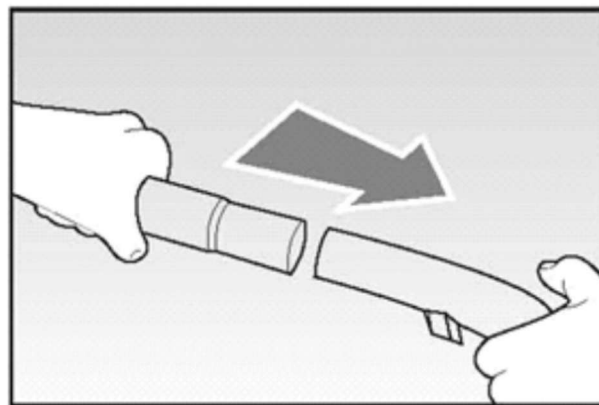

Fig. 3
- Insert the telescopic tube (M) into the handle (Fig. 3).